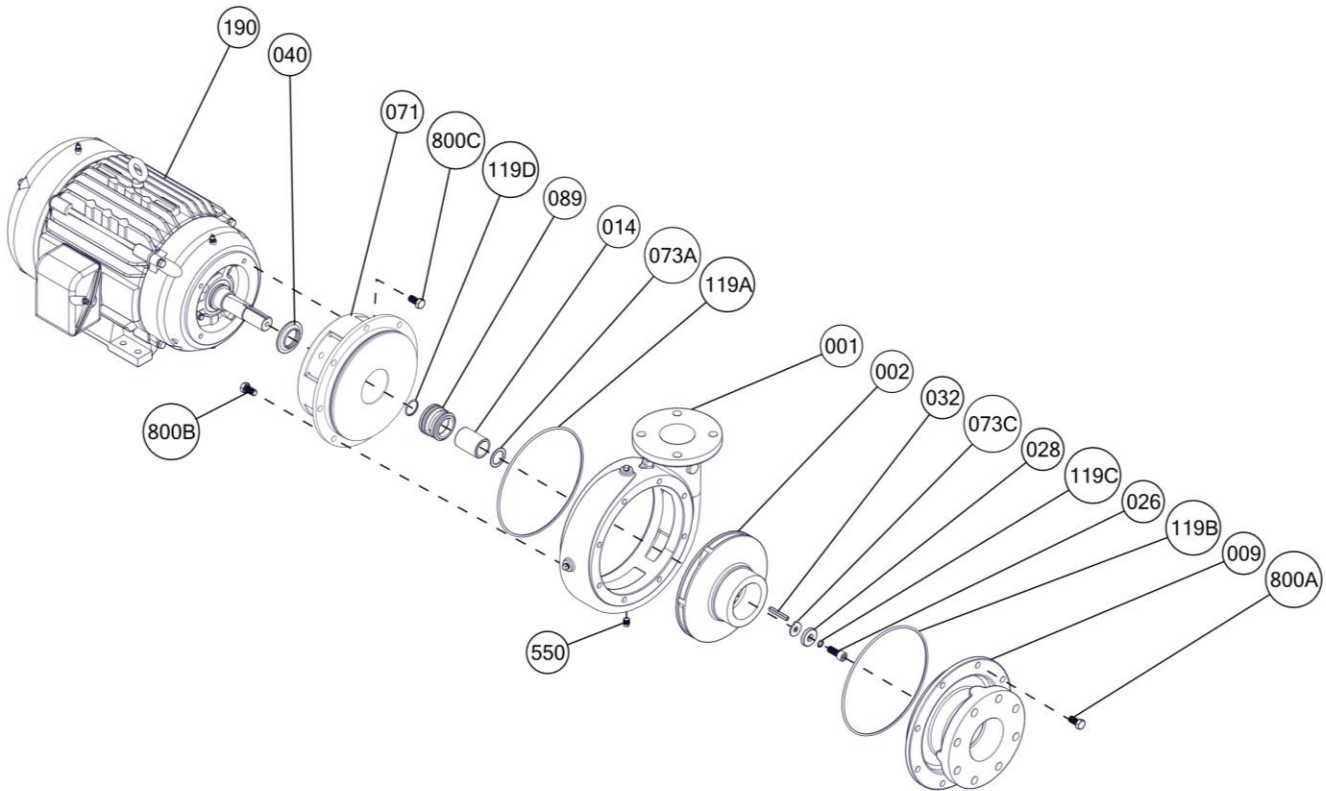

Figure 3. Reference Exploded View, Enclosed Impeller
D. REASSEMBLY OF PUMP. During reassembly, install parts in accordance with instructions. These instructions refer to Figures 3 or 4 and Table 6. If a specific sectional assembly drawing exists for a pumping unit that drawing takes precedence and should be referred to for service work. Read this entire section and study Figures 3 or 4 and Table 6 before reassembling the pump.
On pumps equipped with a semi-open impeller, omit steps 9 through 13. Steps 9 through 13 are procedures that describe impeller clearance adjustment for enclosed impellers only. Refer to Figure 3 for enclosed impeller exploded view.